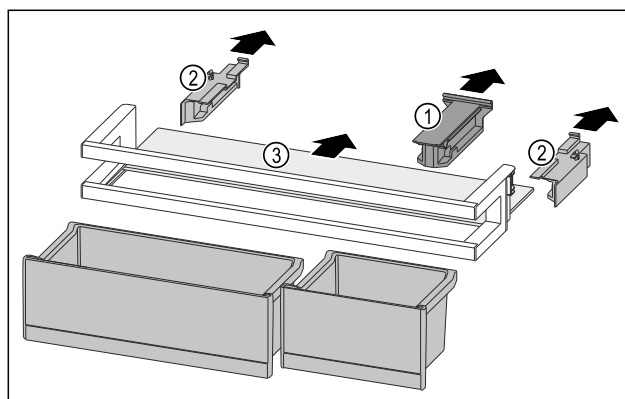

Fig. 172
- Pull off the holding part Fig. 172 (1).
- Pull off the side parts *Fig. 172 (2)*.
- Remove the shelf *Fig. 172 (3)*.